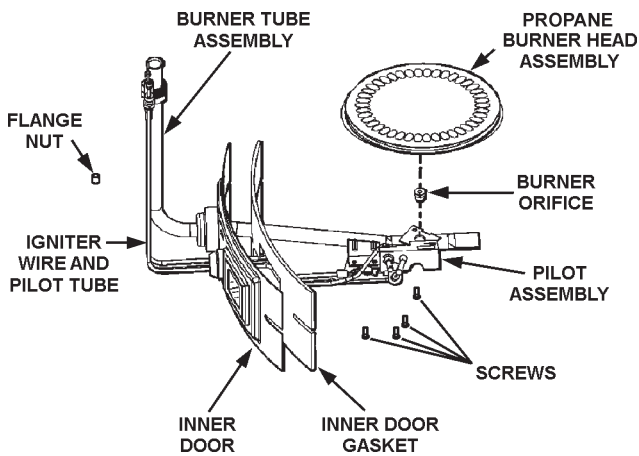

FIGURE 22.
9. Remove flange nuts holding inner door in place with 3/8" nut driver, see Figure 22.